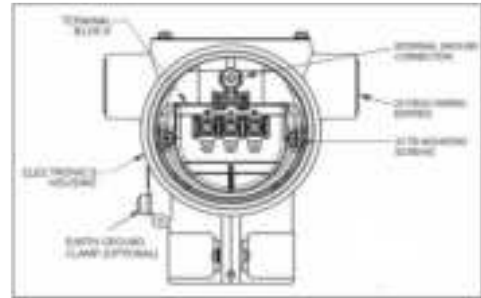

Figure 3: Two Position FF Terminal Block
1. See Figure 3, for parts locations. Loosen the end cap lock using a 1.5 mm Allen wrench.